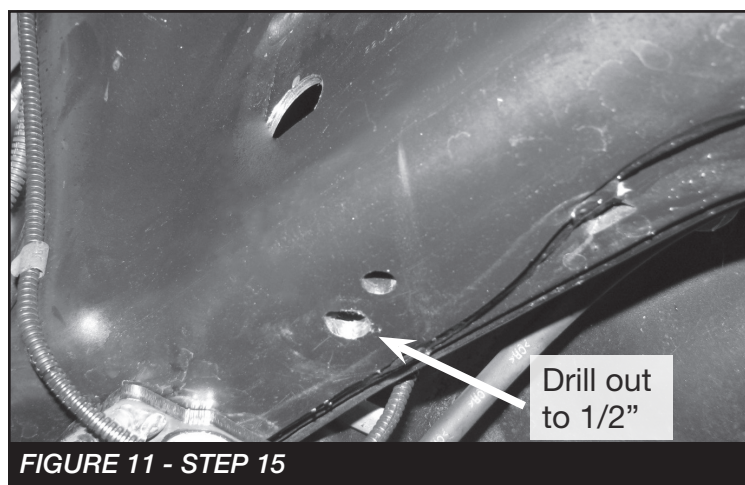

FIGURE 11 - STEP 15
15. Drill out the factory bump stop mount hole to 1/2". **SEE FIGURE 11**